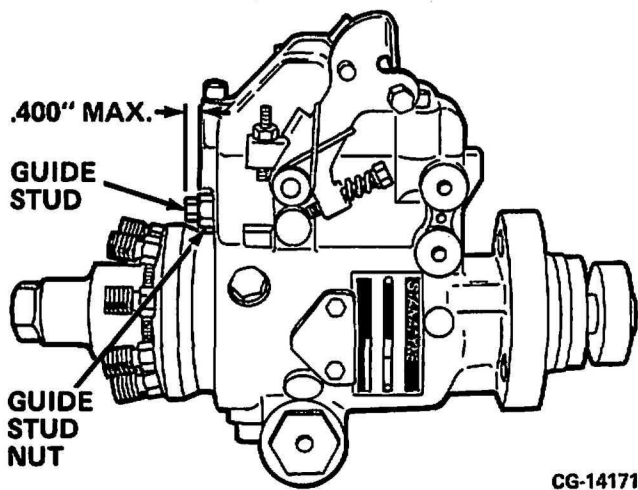

Figure 5.11. Maximum Dimension Between Top of Guide Stud Nut and Guide Stud
c. Check dimension between outboard side of guide stud nut and outboard side of guide stud as shown in Figure 5.11. Dimension should not exceed .400 in. max.